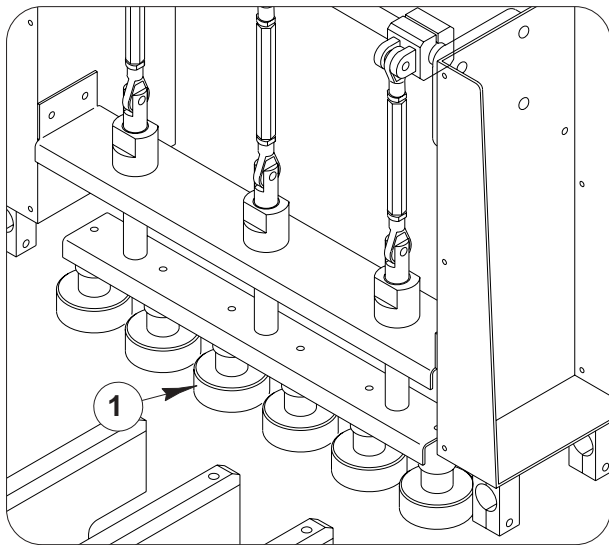

Fig. 3.6
- Replace the cover closing tools (*Part 1 Fig.3.6*)